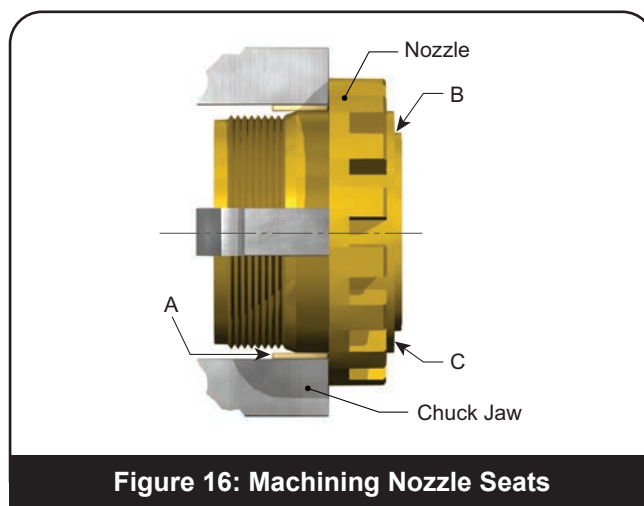

Figure 16: Machining Nozzle Seats
1. Grip the nozzle in a four-jaw independent chuck (or collet, if appropriate), using a piece of soft material such as copper or fiber between the jaws and the nozzle as shown at A (Figure 16).
2. True up the nozzle so that the surfaces marked B and C run true within .001" (0.03 mm) on indicator (Figure 16).